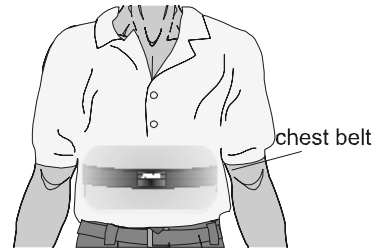

Figure 3
- c. Secure the transmitter belt against the skin directly over the base of the rib cage (see Figure 3). The POLAR logo on the front of the belt should be centered. Adjust the elastic strap to ensure a tight fit.